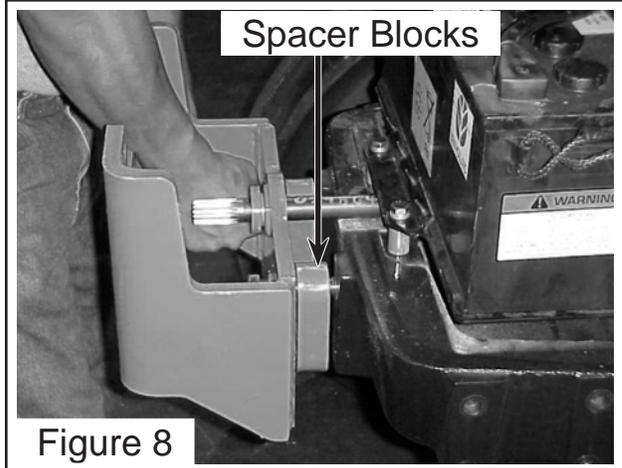

Figure 8
1. Return filter pressure gauge. The return filter pressure gauge (See Figure 8 & 9) is a glycerin filled gauge which give it a smother movement. The gauge is color coded, green = 0 psi. To 15 psi. Red = 16 psi. To 60 psi. The return pressure when oil is warm and at operating temperature should not move out of the green area. It is not unusual for pressure to be high when oil is cold. If pressure is in the red at operating temperature (100° F above ambient temperature, check the return filter it may need changing.)
bolts are removed mount weldment will drop if it is not secured. Some tractor models will have spacer blocks installed between pump mount weldment and tractor bolster. If your model has spacer blocks this should be noted and spacer blocks should be identified and marked. Pump mount weldment with spacer blocks will use longer bolts than model that do not have spacer blocks. (See *Figure 7*). Pull pump mount weldment away from tractor bolster. If the carrier bearing was removed the driveshaft should stay through bolster (See *Figure 8 & 9*).